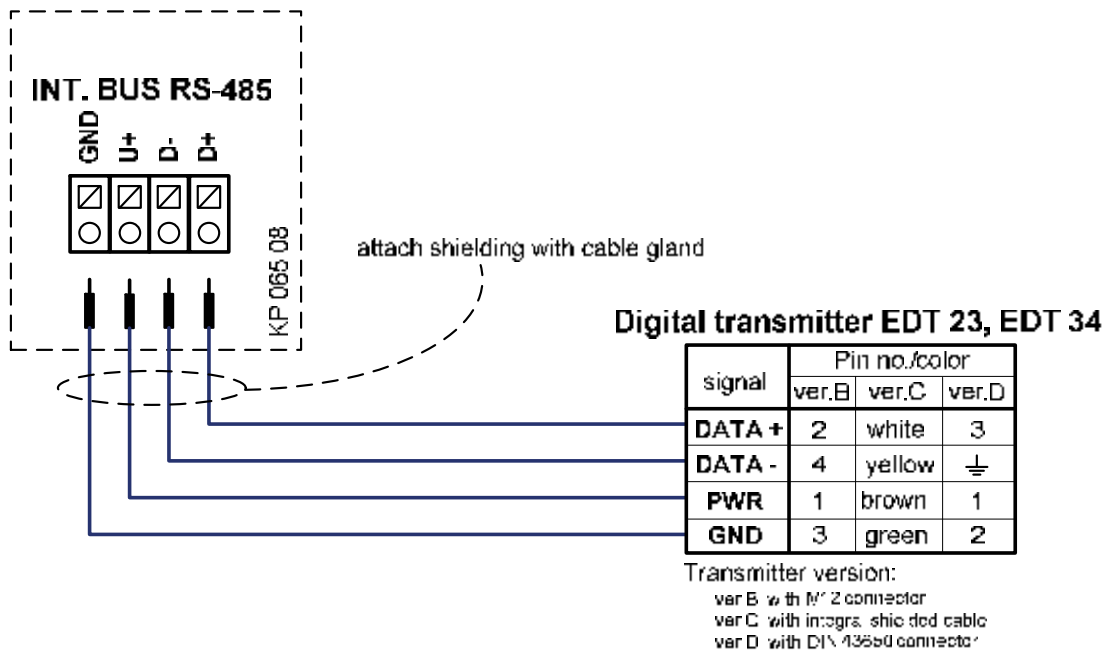

Fig. 10: Connecting of the digital transducer with expansion module RS-485
6. Connect digital transducer. Pull the cable of the transducer through the cable bushing. Attach the shielding of the cable to the body of the bushing. Electrical scheme of connecting expansion module RS-485 is shown on Fig. 10.